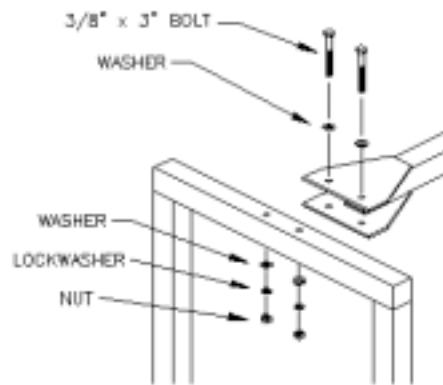

Figure 3 - Cross Beam Assembly
1. Bolt the cross beams to the end frames as shown in Figure 3.